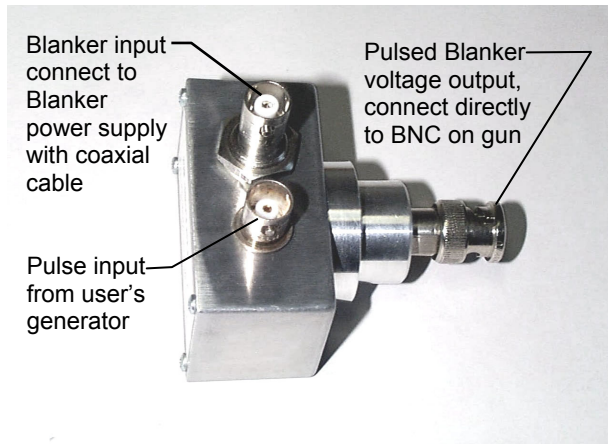

Fig. 4.9-4 A capacitive Pulse Junction Box, showing connections for a beam blanker
3. Connect the Pulse Junction Box as shown in Fig. 4.9-4 and Fig. 4.8-2.